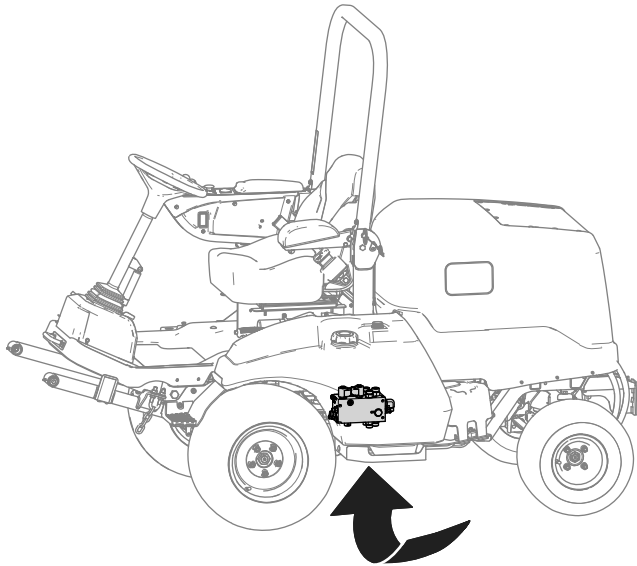

Figure 9
- A. Place a drain pan under the hydraulic manifold (shown in Figure 9).